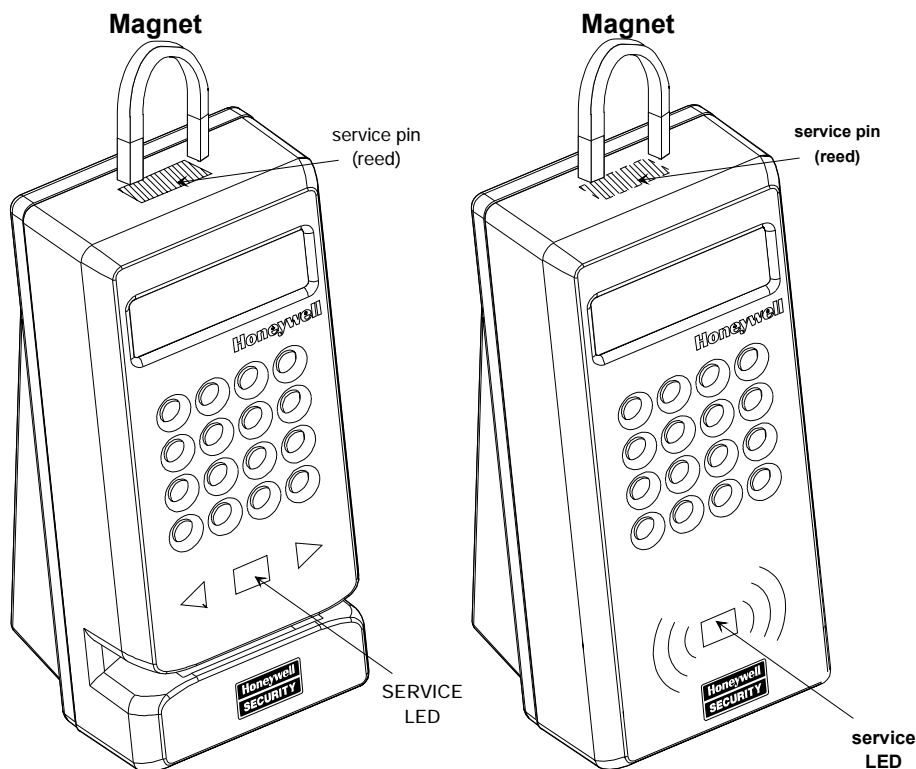

Figure 13. Using a Magnet to Activate the Service Pin
To identify the node, you can activate the service pin by means of a relay-reed located inside the unit (see Figure 13). This procedure consists of the following steps:
1. Position a small magnet as illustrated in Figure 13 to activate the service pin. This signal is linked to the yellow central service LED, which flashes throughout the node configuration procedure.